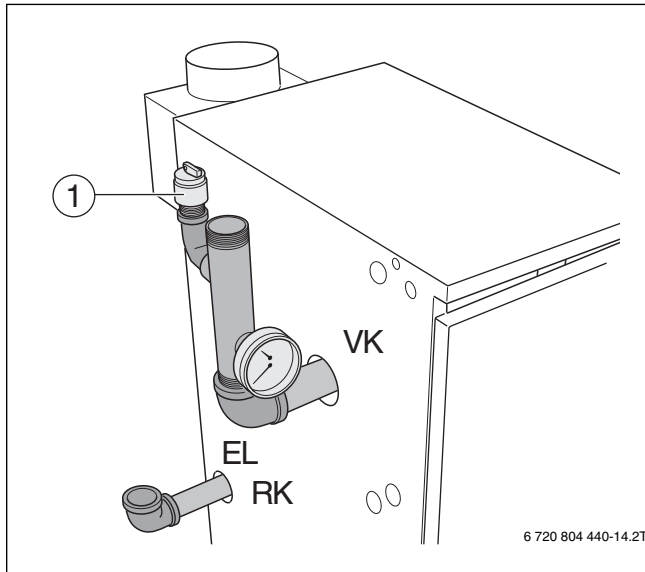

Fig. 14 B-kit installation
- ▶ Close connection for relief valve (→ figure 14, page 12) and all other open connections with plugs.
- ▶ Install pressure relief valve (→ figure 14, page 12).